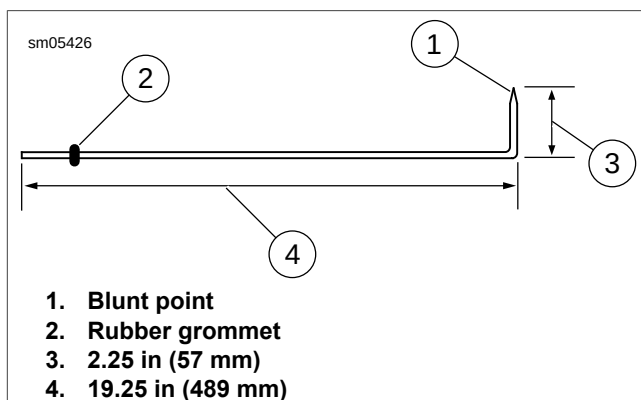
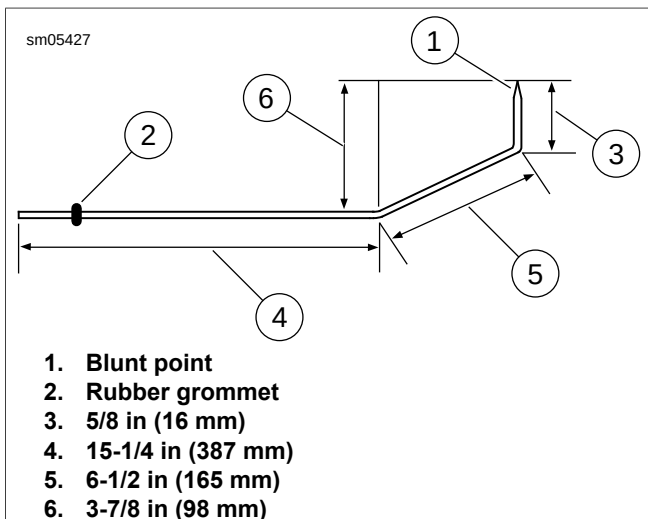
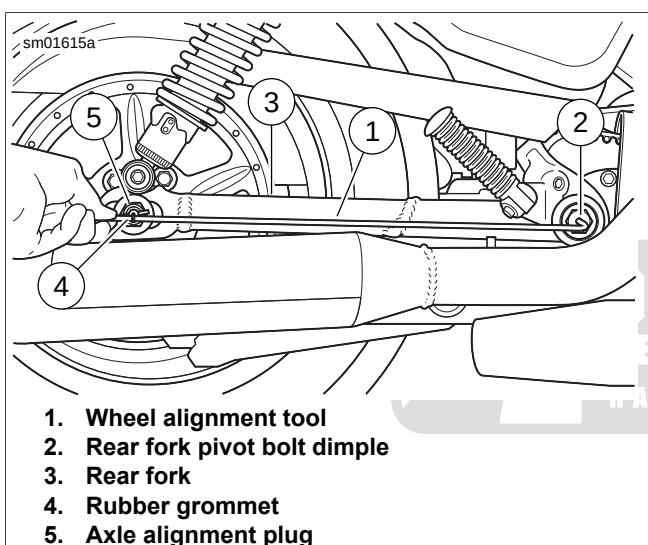

Figure 1-76. Wheel Alignment Tool: XL Models
Figure 1-77. Wheel Alignment Tool: XR 1200X
Figure 1-78. Checking Wheel Alignment Using Wheel Alignment Tool: XL Models
- XL Models:** See Figure 1-76. Fabricate an alignment tool using a piece of 1/8 in (3.175 mm) diameter aluminum welding rod 21.5 in (546 mm) long:
- Place a snug-fitting rubber grommet (2) on rod to act as a slide measurement indicator.
- XR 1200X:** See Figure 1-77. Fabricate an alignment tool using a piece of 1/8 in (3.175 mm) diameter aluminum welding rod 22.375 in (568 mm) long:
- See Figure 1-78. Insert blunt point of alignment tool in rear fork pivot bolt dimple (2) on right side of rear fork (3).
- Slide rubber grommet along tool shaft until it aligns with hole in center of alignment plug (5).